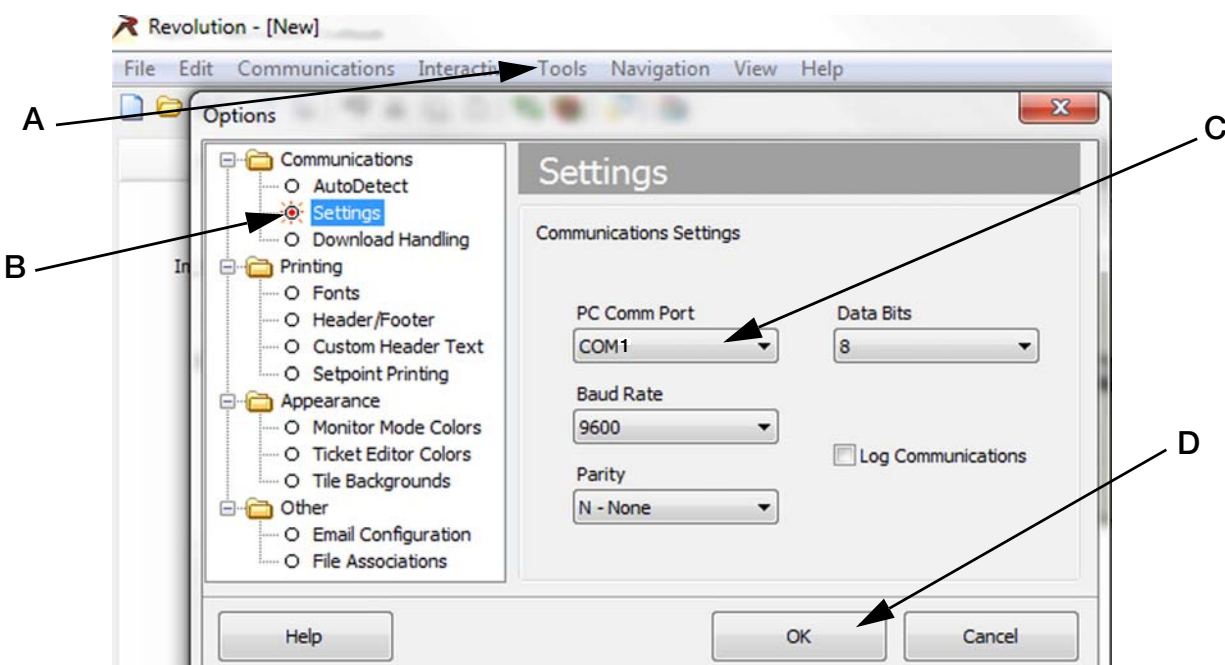

Figure 4-4. Options Screen to Select Comm Port for USB
6. Go to Tools/Options (Figure 4-4 A) and select **Settings** (B), then choose the **PC Comm Port** (C).
8. Click OK (Figure 4-4 D).